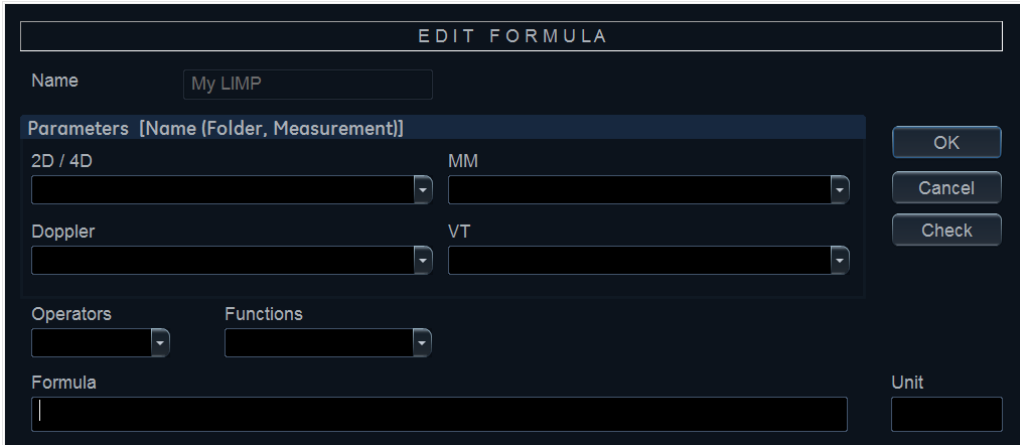

Figure 12-18. The Edit formula window
1. When creating a formula, enter the unit to use when displaying the formula output. E.g. if Y in the formula  $Y=f(x)$  is to be displayed in cm, enter cm in the *Unit* field (see Figure 12-18 on page 12-29).